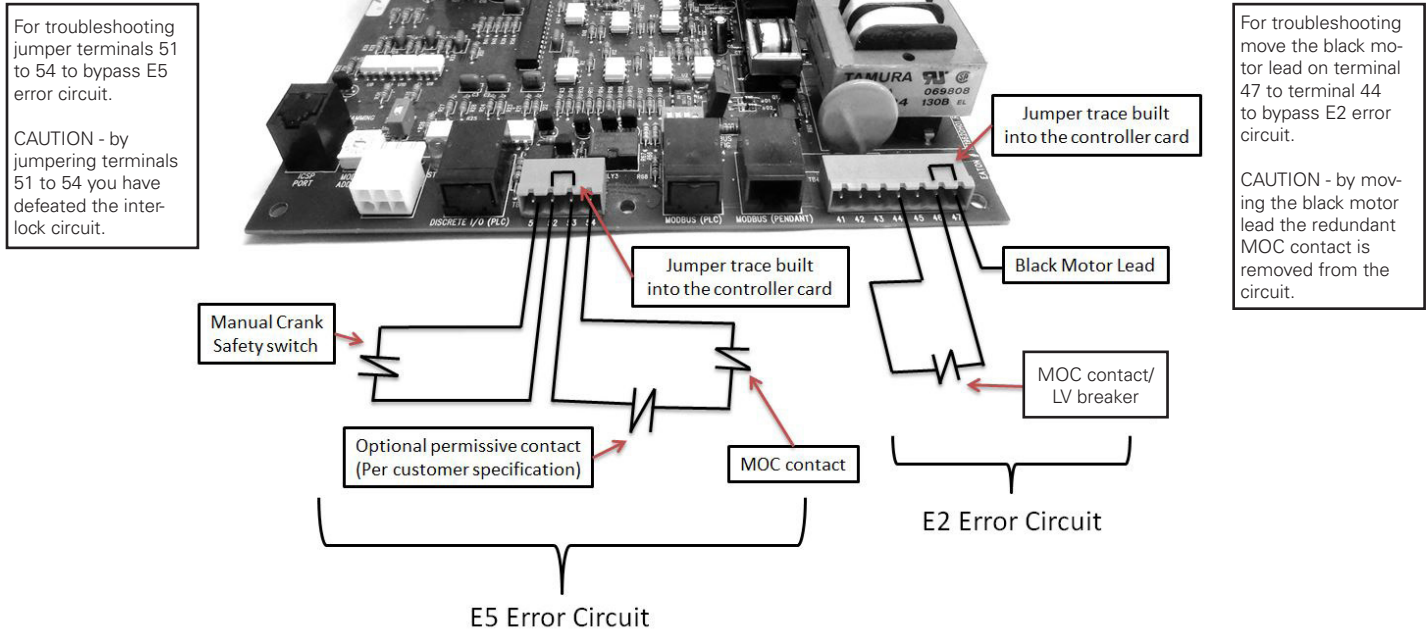

Figure 1. Permissive wiring diagram for MR2.
- Normally closed mechanism-operated compartment (MOC) contact wired into the controller programming permissive circuit (breaker cell only). Part of the E5 error code circuit (see Figure 1).
- Normally closed MOC contact wired in series with the black motor lead (breaker cell only). Part of the E2 error code circuit (see Figure 1).
- Normally closed manual crank permissive switch located on the right side of the Lev-in assembly (breaker and auxiliary cell) (see Figure 15 and 16). Part of the E5 error code circuit (see Figure 1).
In addition to the permissive contacts mentioned above, the controller will accept as many normally closed permissive contacts wired in series with permissive #1 and #3 as specified (see Figure 1- circuit board wiring points).
An open motor circuit as shown (Figure 1 and 2) will also cause this error. Use troubleshooting as shown with Figure 1 and 2.
This state is due to a permissive contact being open. It could be a standard permissive such as the circuit breaker being closed or the slider bracket being pushed in. In this case, press the “Disconnect” button to reset the controller. Once the permissive switch is closed, any operation will work. Use troubleshooting guide as shown with Figure 1 and 2.